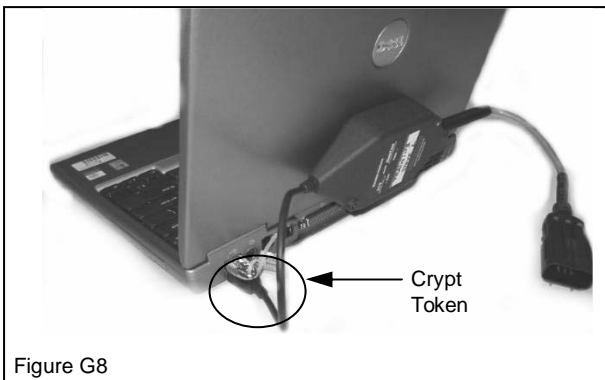

Figure G8
9. Using a feeler gauge (Figure G8), loosen the sensor retaining bolts and adjust the gap between the sensor and the gear tooth from 1.25mm to 1.5mm. Re-tighten the sensor retaining bolts when complete.
1. Install the Crypt Token in an available USB port in the computer (Figure G8).